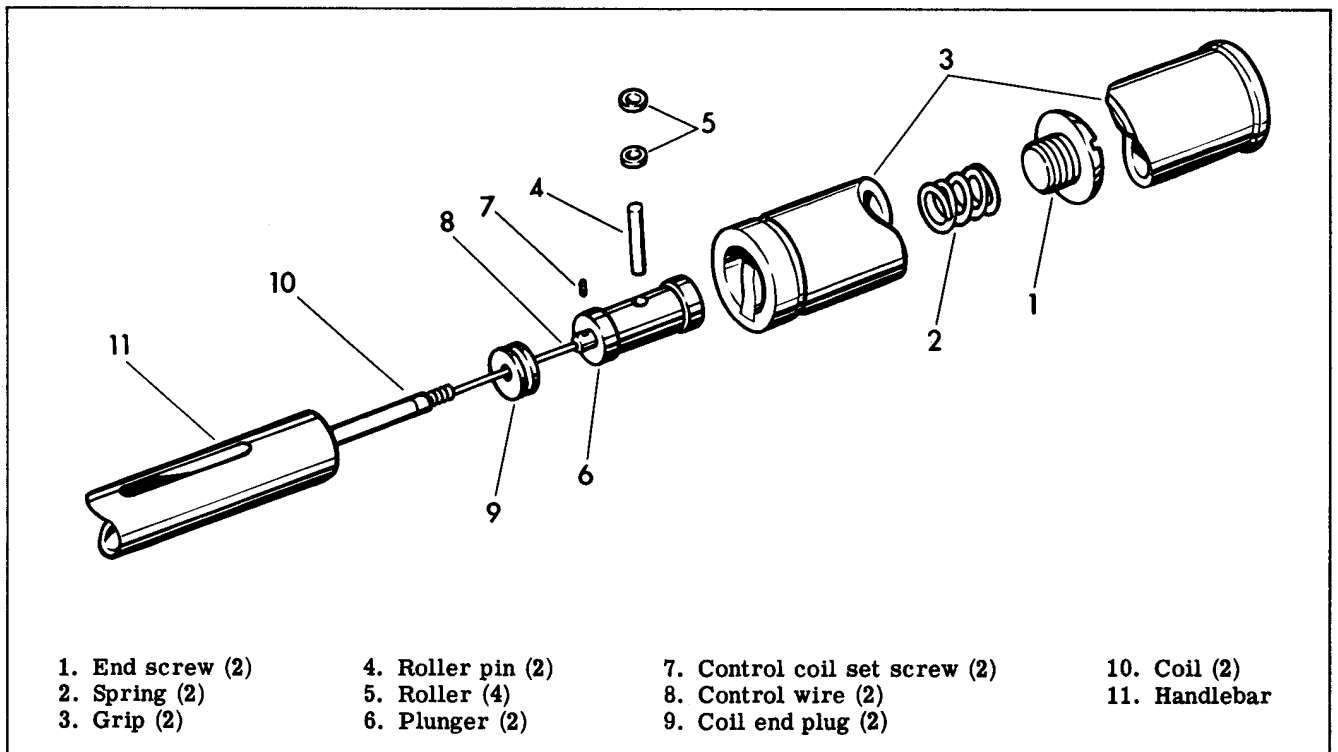

Figure 2-16. Handlebar Control - Exploded View
**DISASSEMBLING HANDLEBAR CONTROL (Figure 2-16)**
**ASSEMBLING HANDLEBAR CONTROL (Figure 2-16)**
1. Slip control coil through handlebar and secure at end plug with lock screw through handlebar (screw must register in groove of end plug). Slip roller pin through plunger and assemble rollers to ends of roller pin, rounded side out. Attach control wire to plunger assembly by means of the set screw (7).